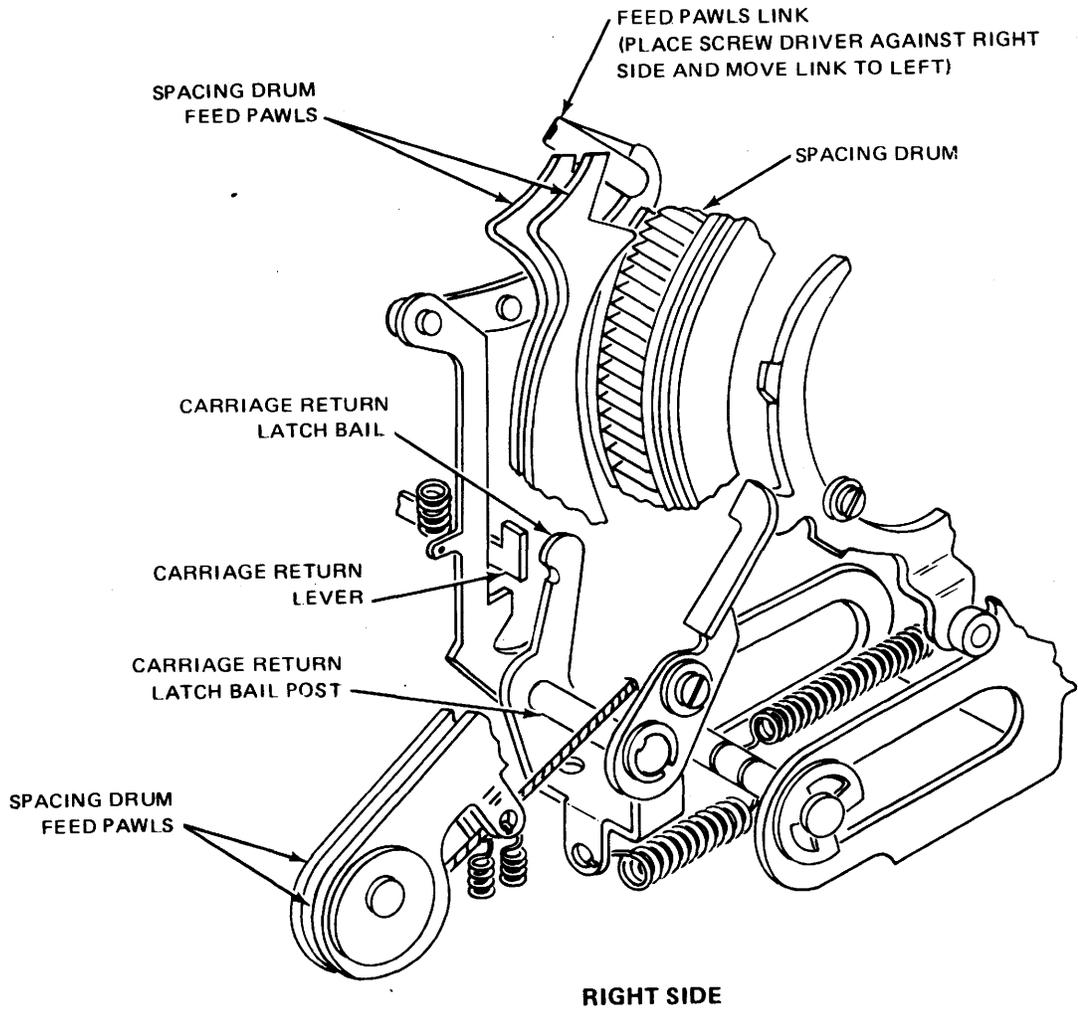

Figure 6-37. Carriage Return Mechanism (Front View).
6-45. Keyboard Lower Draw Wire Rope Removal and Replacement. To replace the keyboard lower draw wire rope, see figures 6-37, 6-38, and 6-39, and proceed as follows:
a. Disengage feed pawls from spacing drum by moving feed pawls link to left with screwdriver (see figure 6-37).